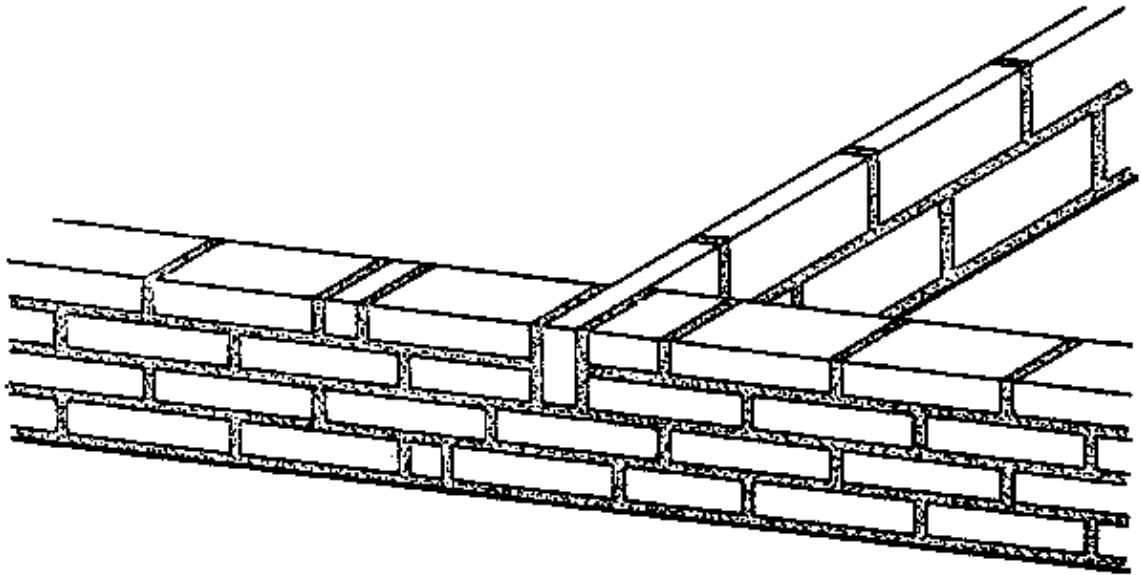

Fig. 2 SITUATION "B" – SPECIALLY MADE BLOCKS
– SITUATION “B”, SPECIALLY MADE BLOCKS: When this bonding method (Fig. 2) is compared with the last method, it is clear that once again the specially made blocks are the best choice.